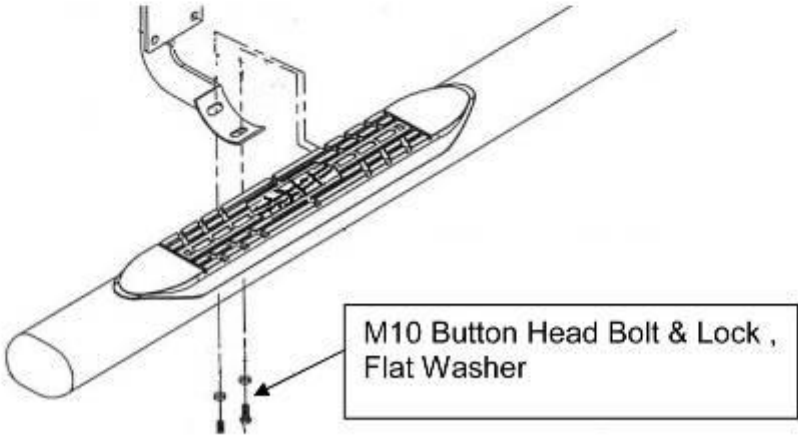

Figure 3.Installation View of Bracket & Bar
5. Assemble with M10 button head bolts and M10 washers. 2 bolts per bracket, 4 bolts per bar. See Figure 3.